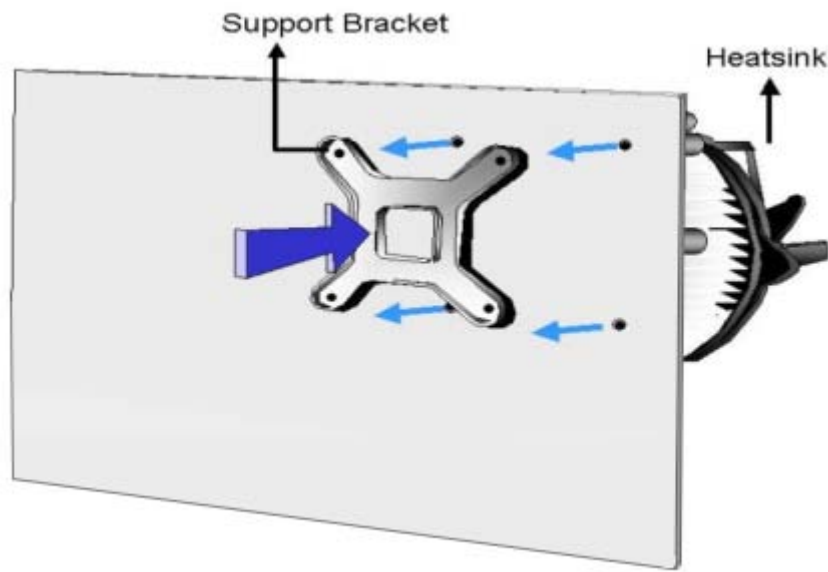

Figure 4-6: Securing the Heat sink to the IMBA-G412ISA
Step 4: Secure the cooling kit. From the solder side of the PCB, align the support bracket to the screw threads on heat sink that were inserted through the PCB holes. (See **Figure 4-6**)